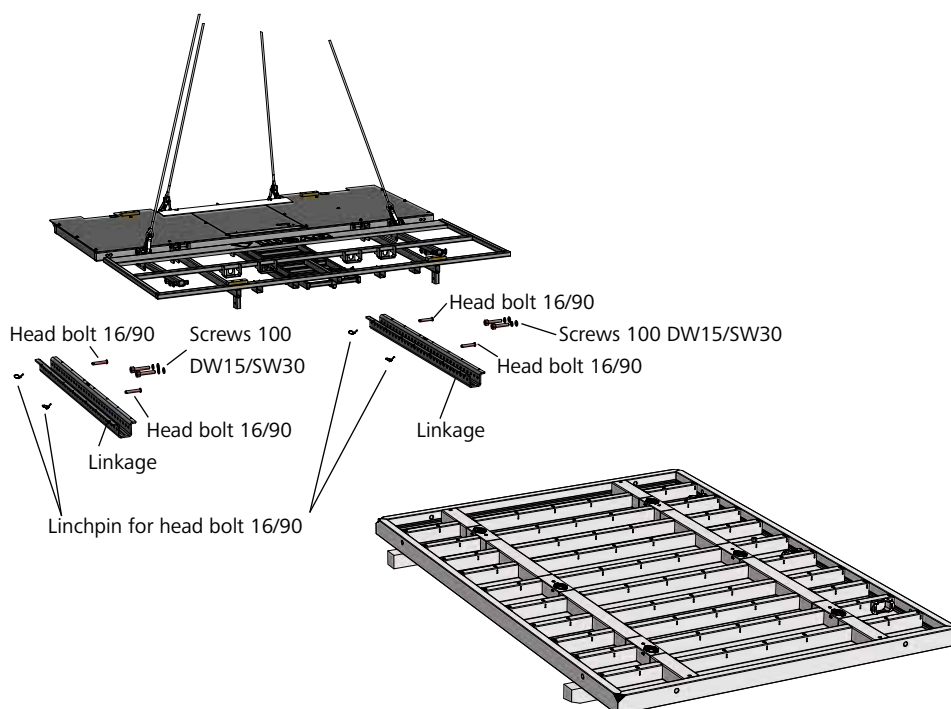

Fig. 10.2
3. Before placing the platform on the formwork panel, detach both linkages by removing the two integrated head bolts 16/90 from each linkage (Fig. 10.2).
Remove the two integrated screws 100 DW15/SW30 (30 mm across flats) used to secure each linkage to the panel from their parking positions in the diagonal braces of the platform (Fig. 10.2).